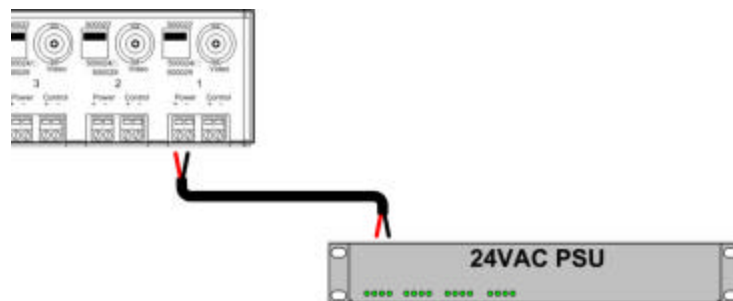

Figure 9: Remote power connection, Model IC562A
8. If remote power is being transmitted to the camera, verify that the distance between the camera and the hub is within Black Box specifications. Please consult the distance charts at the back of the installation guide. When the port switch is set to Pass-Thru Mode (IC452A), two (2) twisted pairs are used for remote power. When the port switch is set to Power-Thru Mode (IC560A/IC561A), three (3) twisted pairs are used for remote power thus supporting greater distance.
9. Connect two (2) wires between the power terminals of the hub to the remote low voltage power supply (fig 9). **It is recommended to use a Class II power supply with fuse protection on each output port.**